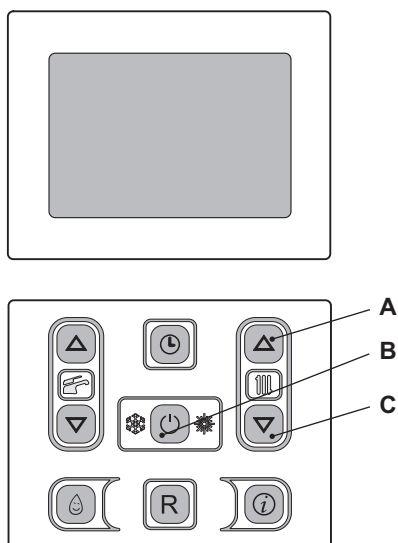

Figure 9.5
- 1 To enter in the parameters setting mode press contemporary the 3 keys (A - B - C Figure 9.5) for 10 seconds at the same time until **P01** are displayed on the display, indicating the entry in the "parameter 01" and the value of parameter (Figure 9.5 - Figure 9.6).
- To reset the boiler to the normal operation press the key B (Figure 9.5) for 10 second or turn off the electricity supply to the boiler.